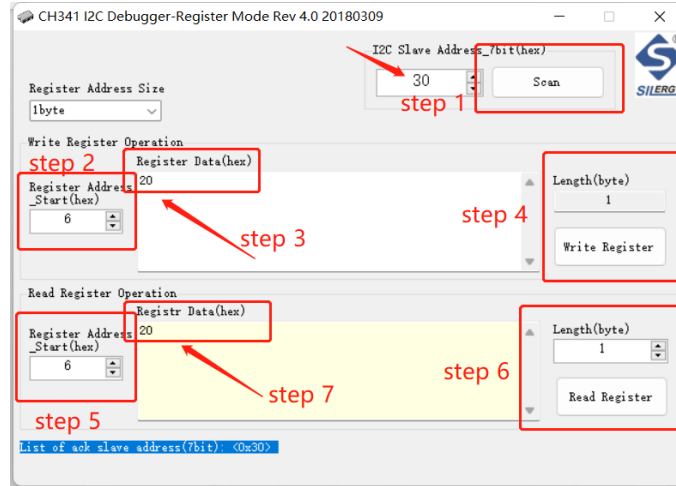

Figure8 Operation Method of Sleep Mode
The operation is as follows: (1) Click **Scan** and the address is 30; (2) Input 6 in **Register Address_start** ; (3) Input 20 in **Register Data** ; (4) Click **Write Register**; (5) Input 6 in **Register Address_start**; (6) Click **Read Register**; (7) check. The operation method of entering and exiting Sleep Mode is shown in Figure 8: